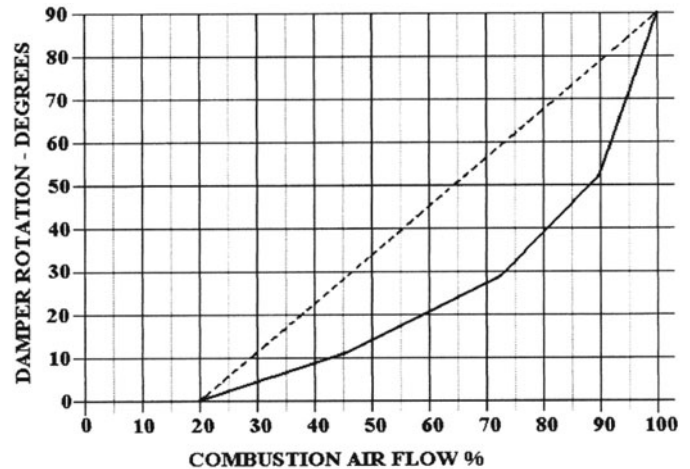

Figure 11-18. Non-linear air flow from damper.
To understand why linearity is difficult to achieve, consider a typical forced draft (FD) fan actuator. The fan can be equipped with a discharge damper or variable inlet vanes. Measure and plot the relationship of damper rotation and air flow. It will look something like the curve in Figure 11-18, hysteresis being ignored.